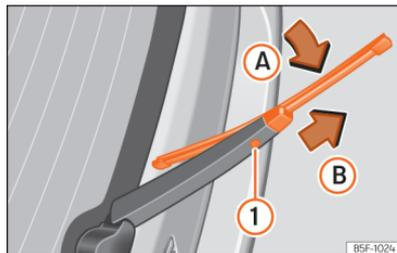

Fig. 161 Changing the rear wiper blade
- Rotate the blade lightly >>> Fig. 161 (arrow A).
- Hold down the release button ① while gently pulling the blade in the direction of arrow B.
- Insert a new blade of the **same length and type** in the rear wiper arm in the opposite direction to the arrow B until button ① hooks into place.